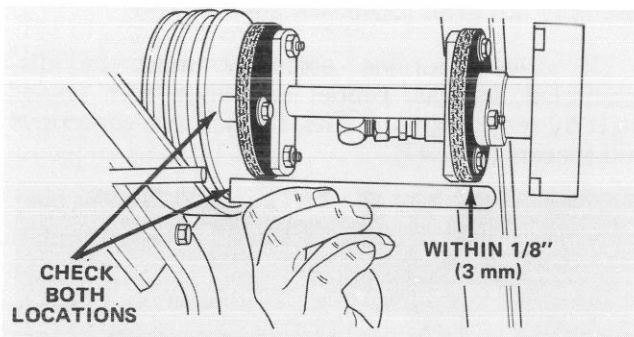

Figure 48
1. Check alignment of drive couplings, place square end of ruler or scale against face of drive pulley and bottom of coupling retainer to check vertical alignment (Fig. 48). Also, place ruler or scale against face of drive pulley and side of coupling to check horizontal alignment (Fig. 48). If there is more than 1/8 inch (3 mm) between ruler or scale and opposite coupling retainer, or the scale is more than 1/8 inch (3 mm) higher than bottom of coupling during vertical alignment check or scale does not align within 1/8 inch (3 mm) of side of coupling, an adjustment is required. To correct for misaligned drive coupling, proceed to step 2.